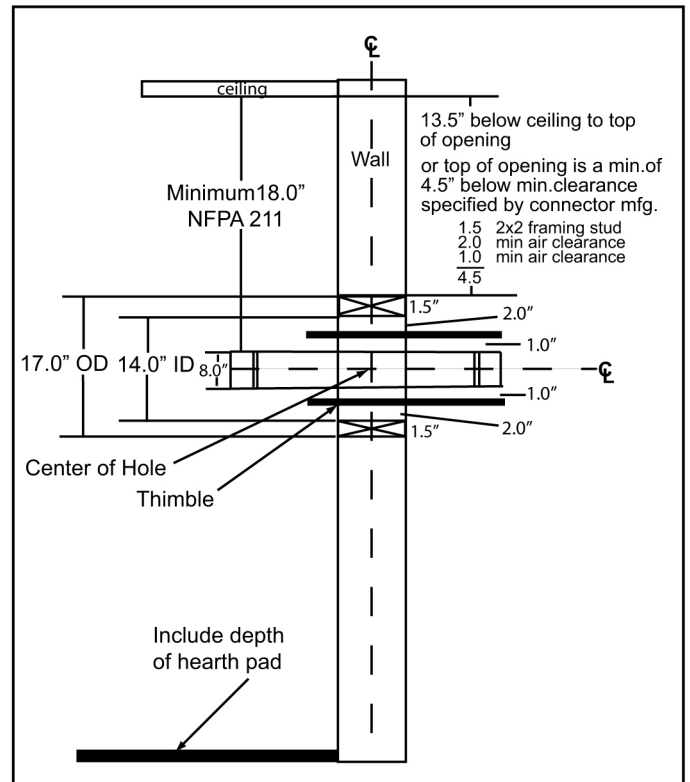

Figure 6.1
minimum clearance specified by chimney connector manufacturer. NFPA 211 minimum vertical clearance of 18 inches (457mm) from chimney connector and ceiling or minimum recommended by chimney connector manufacturer. **Figure 6.1.**
1. Open inside wall at proper height for the chimney connector to entry the masonry chimney. **Figure 6.1.**
less than 14 inch x 14 inch (56mm x 56mm). **Figure 6.1.**